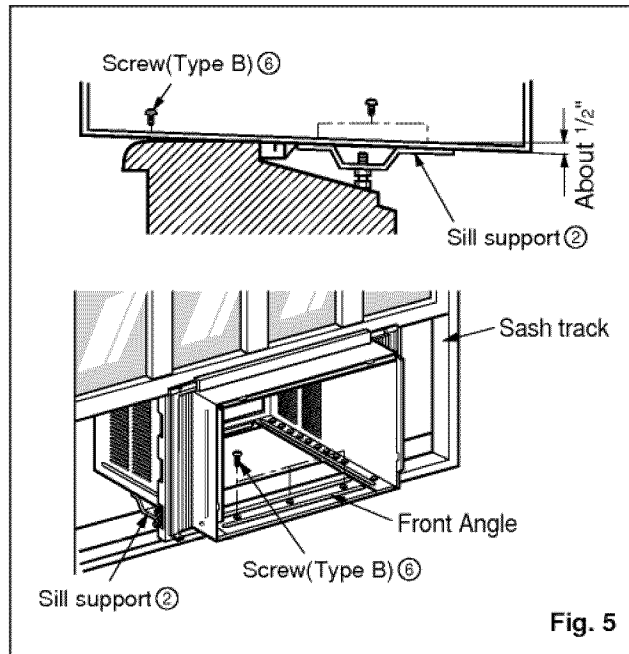

Fig. 5
6. The cabinet should be installed with a very **slight tilt (about 1/2") downward** toward the outside. (Fig. 5)
6. The cabinet should be installed with a very **slight tilt (about 1/2") downward** toward the outside (See Fig. 5).